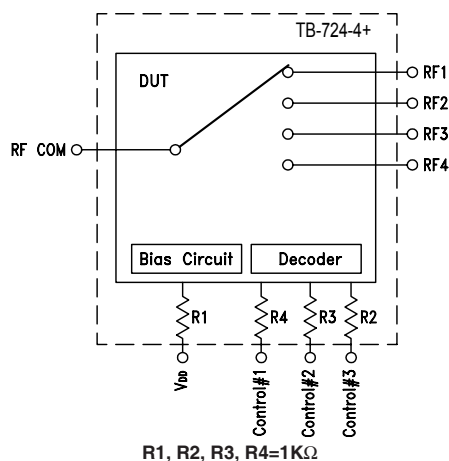

Figure 1: Block Diagram Of Test Circuit Used For Characterization. (DUT soldered on Mini-Circuits' TB-724-4+)
- As measured in Mini-Circuit's test board TB-724-4+ (see Characterization Test Circuit, Fig.1).